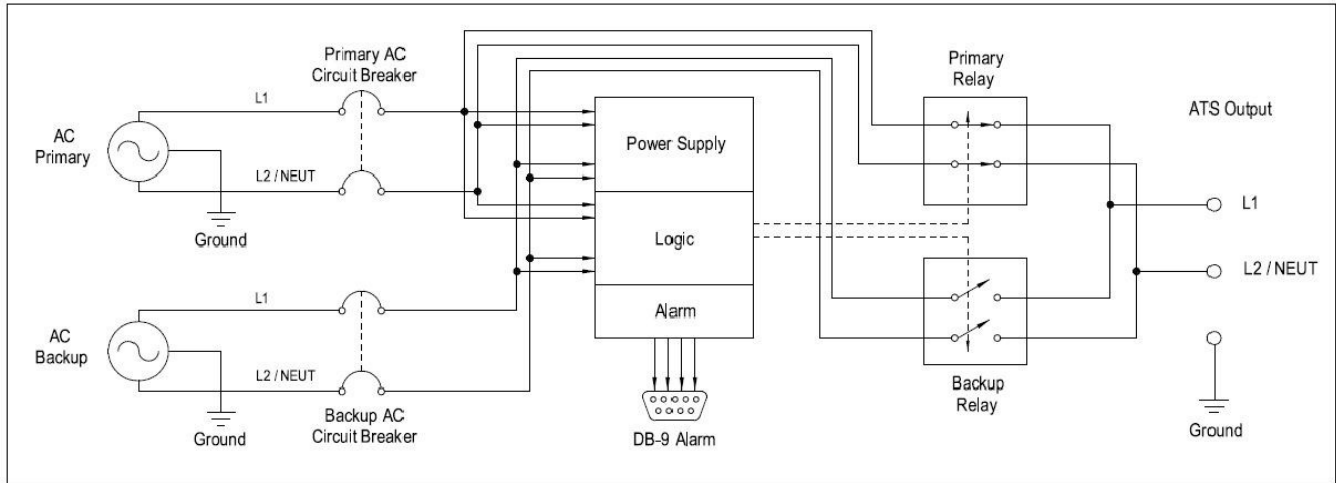

Figure 6: ATS-500 System Architecture
2.1 ATS SYSTEM ARCHITECTURE (See Figure 6)